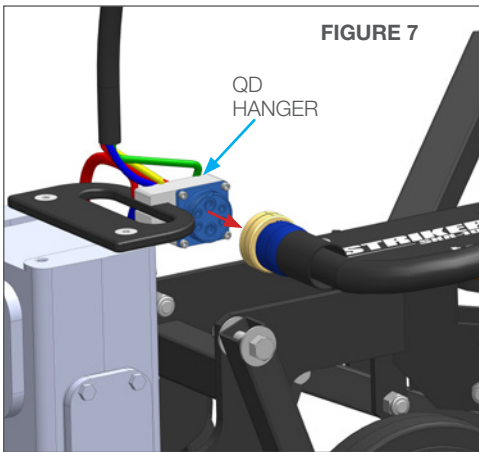

FIGURE 7
- Disconnect the Control Box Umbilical from the QD Hanger. **(Figure 7)**